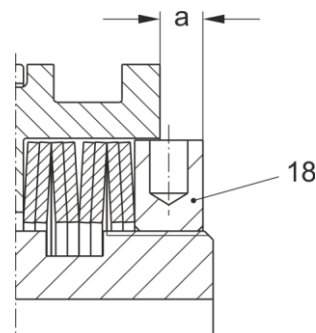

Fig. 12
1. Remove the set screw (19).
3. Adjust dimension "a" by turning the adjusting nut (18) according to Fig. 12.
4. If necessary, correct the adjustment until a threaded hole for the set screw (19) meets one of the 4 hub keyways.
5. Screw the set screw (19) into the hub keyway.